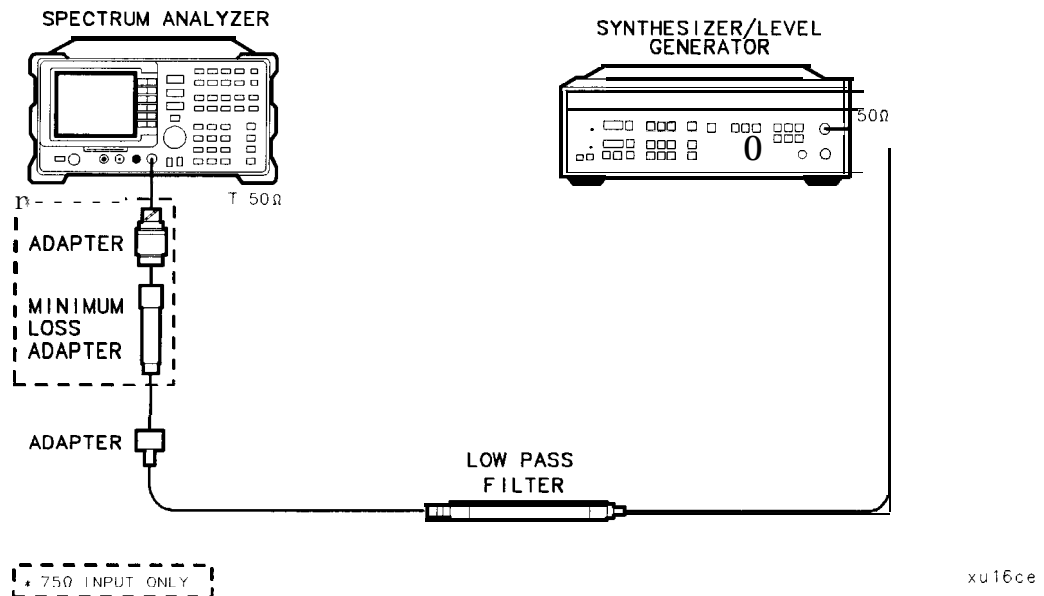

Figure 2-43. Second Harmonic Distortion **Test** Setup, 30 **MHz**
2. Connect the equipment as shown in Figure 2-43.